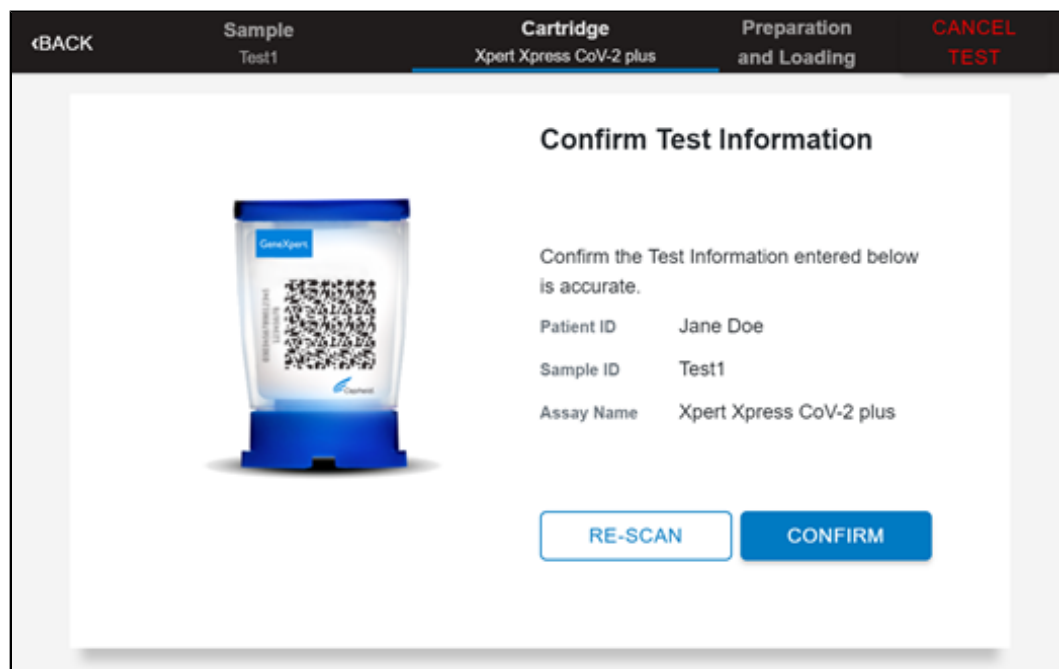

Figure 18. Confirm Test Information Screen
5. Verify that the correct cartridge has been scanned and that the assay name matches the name of the assay on the cartridge (see Figure 18).